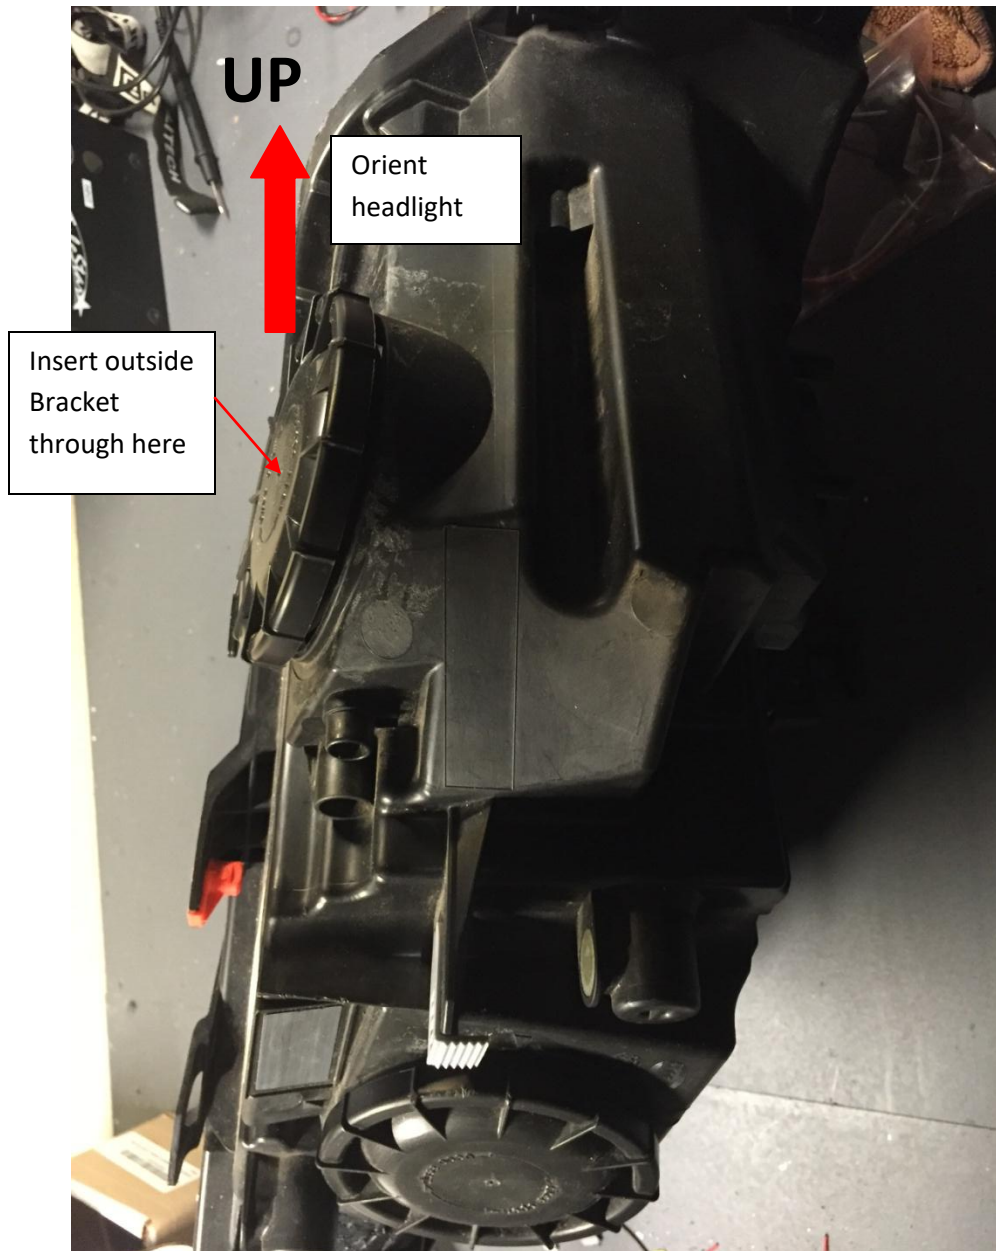

Figure 9: Install the Outside Brackets
9. Orient the headlight so that you can lower the bracket through the top dust cover port (where the parking light socket is located) (Figure 9)